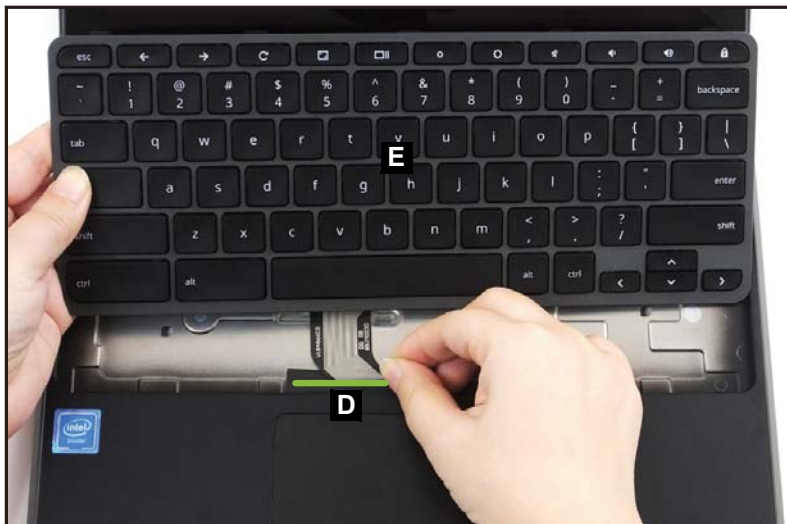

Figure 1-23. Keyboard Removal
- Unroute the keyboard FPC from the opening (D) on the keyboard compartment. Then remove the keyboard (E) (Figure 1-23).